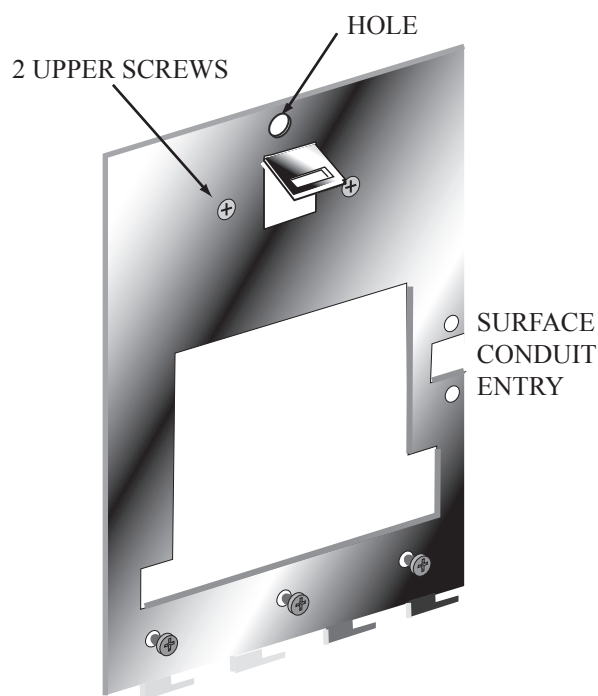

Figure 4-1: Wall Plate
1. Remove the wall plate from the packing carton. Refer to Figure 4-1 for all wall plate references in the following section.